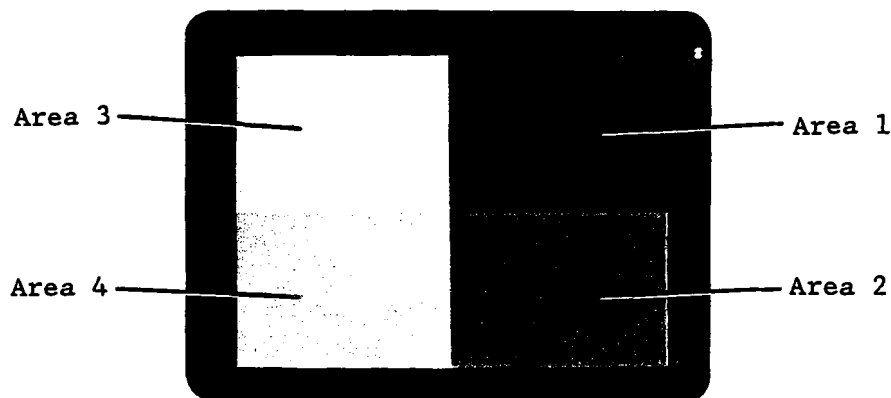

Figure 3-23. White Balance Adjustment Test Pattern
6. Adjust A5R30 (BH), and A5R32 (GH) until the color of the lower left area (Area 4 in Figure 3-23) is untinted shade of gray.
7. Adjust A5R31 (BL), and A5R33 (GL) until the color of the lower right area (Area 2 in Figure 3-23) is an untinted shade of gray.
8. Check that the color of the upper left area (Area 3 in Figure 3-23) is white (no tint). If not, repeat steps 6 and 7 until it is balanced.